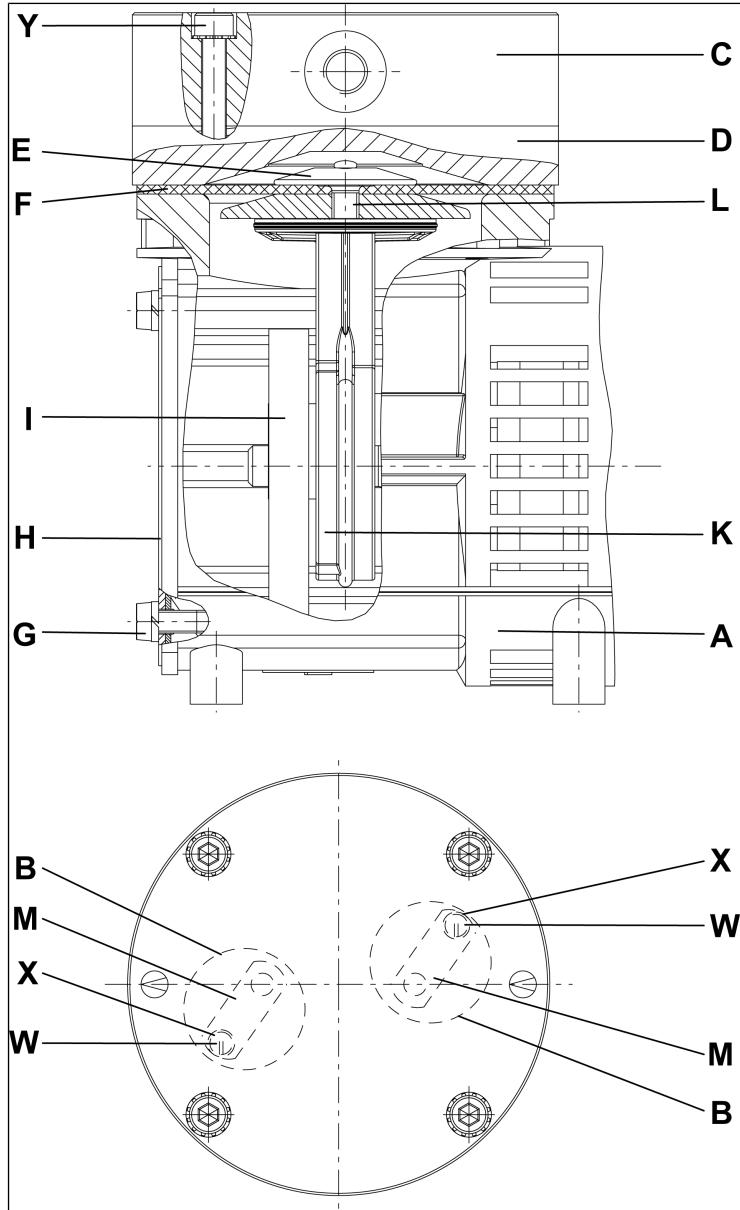

Fig. 7: Pump parts for pump models with smooth heads and valve springs (stainless steel, symbolic)
\*\* According to Fig. 7
**i** The following item numbers refer to Fig. 7.